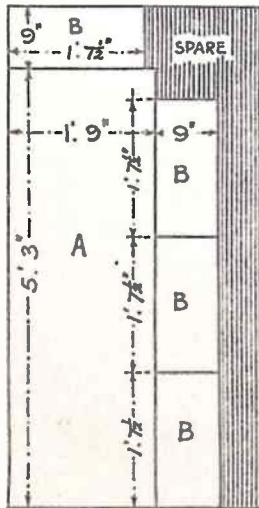

Fig. 3
On a complete panel of the fibre board, mark out in pencil the five parts (A) and (B) in Fig. 3, carefully to the measurements given, then saw through on the lines and clean up all edges. Now take the two other panels and proceed to use the cut-out pieces as templates for marking round, thus making fifteen pieces for making up the three leaves of the screen.